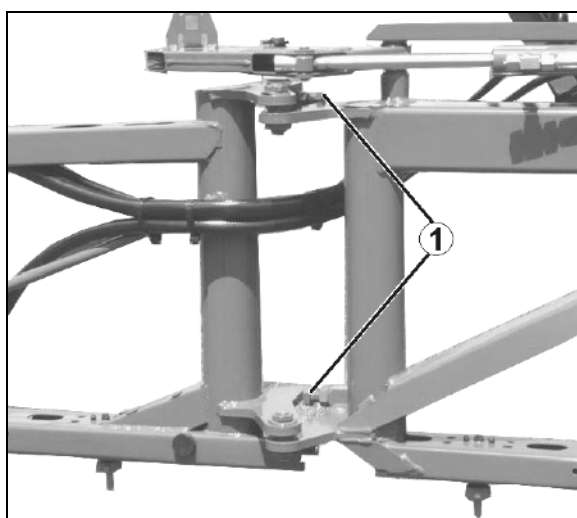

Fig. 170
1. Release the lock nut of the adjusting screw (Fig. 170/1).